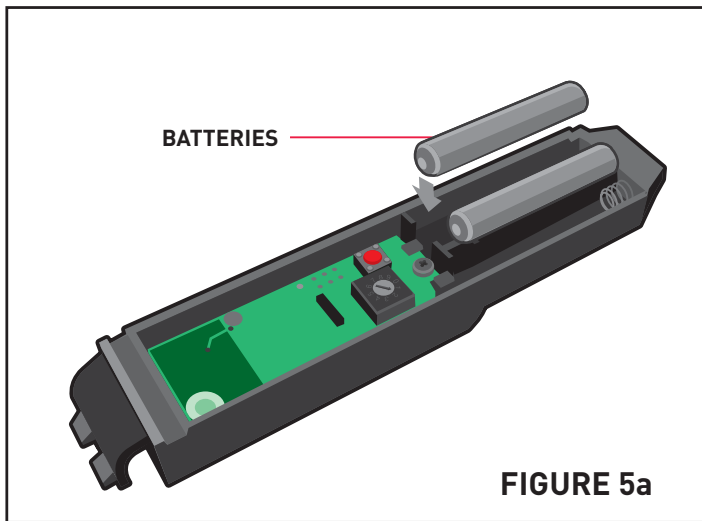

FIGURE 5a
5. Install the batteries into the sensor, following the polarity indicated. A red LED will come on briefly for approximately 1 second to confirm that the batteries have been properly installed. See figure 5a.